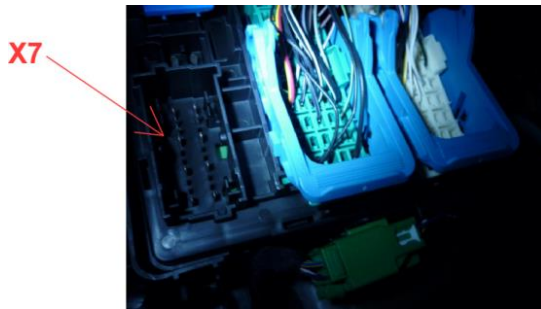

Figure 29: X7 Location in junction box
11. Locate X7 in the junction box and install service connector into junction box. See Figure 29